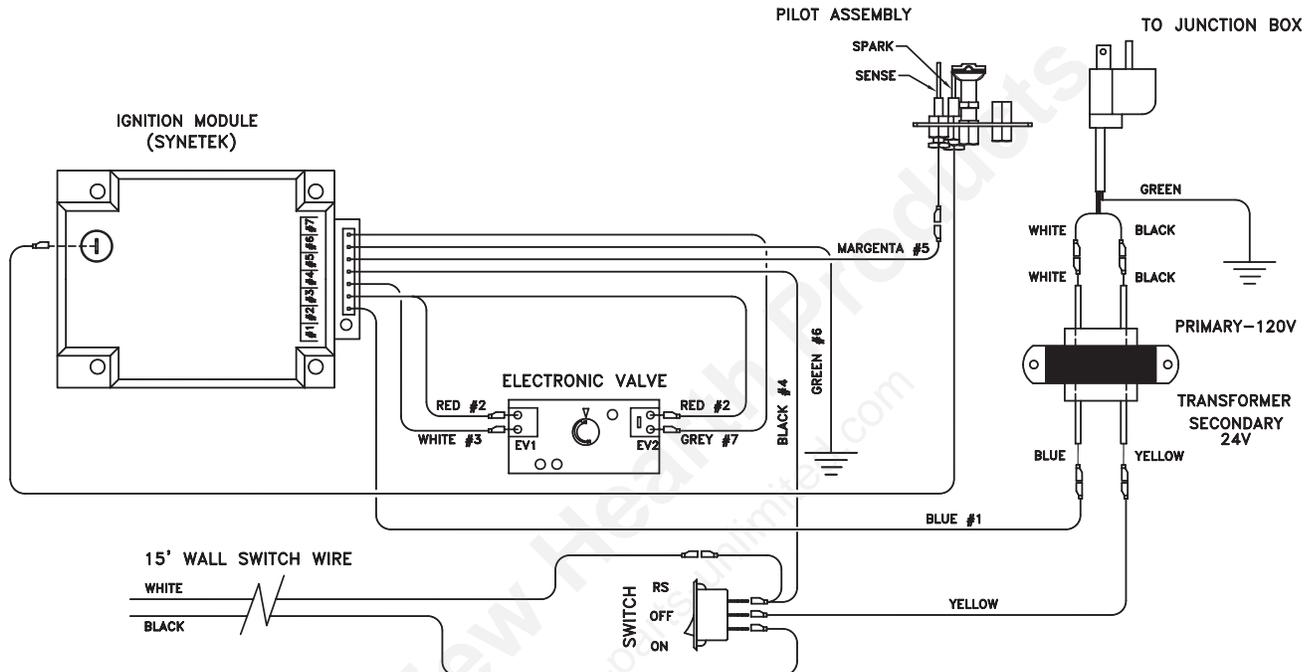

Figure 40 -
2. Connect the wire terminal from the remote receiver. This replaces the 15' wall switch connection to the switch. *Figure 40*.